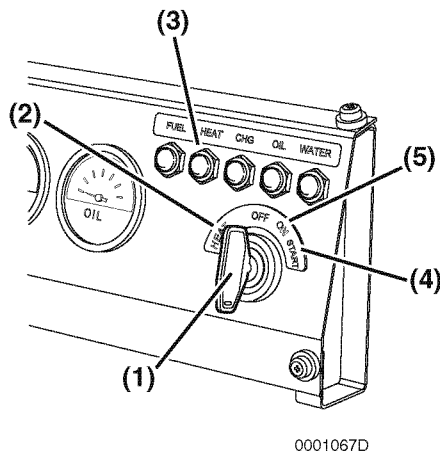

Figure 1
6. Insert the key (**Figure 1, (1)**) into the key switch.
7. Turn the key to the HEAT position (**Figure 1, (2)**). The Heat indicator (**Figure 1, (3)**) flashes for several seconds and then goes out. After the Heat indicator goes out you can start the engine.
8. Turn the key clockwise to the START position (**Figure 1, (4)**). Release the key as soon as the engine starts. It will return to the ON position (**Figure 1, (5)**).